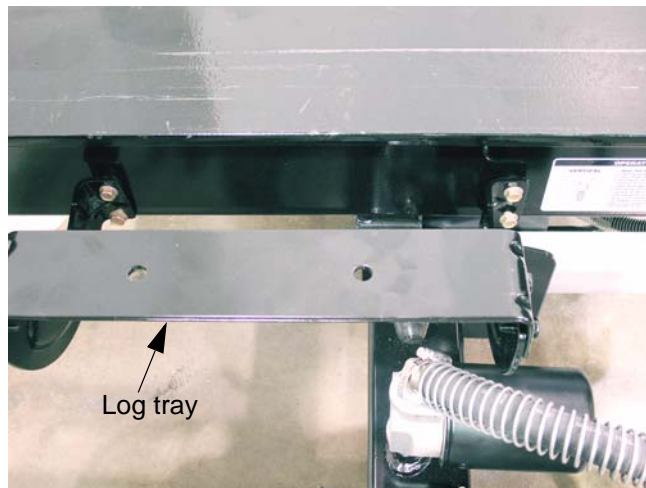

Figure 6.8
12. Remove the log trays by removing screws that attach them to the beam using a 1/2" wrench. See Figure 6.8.